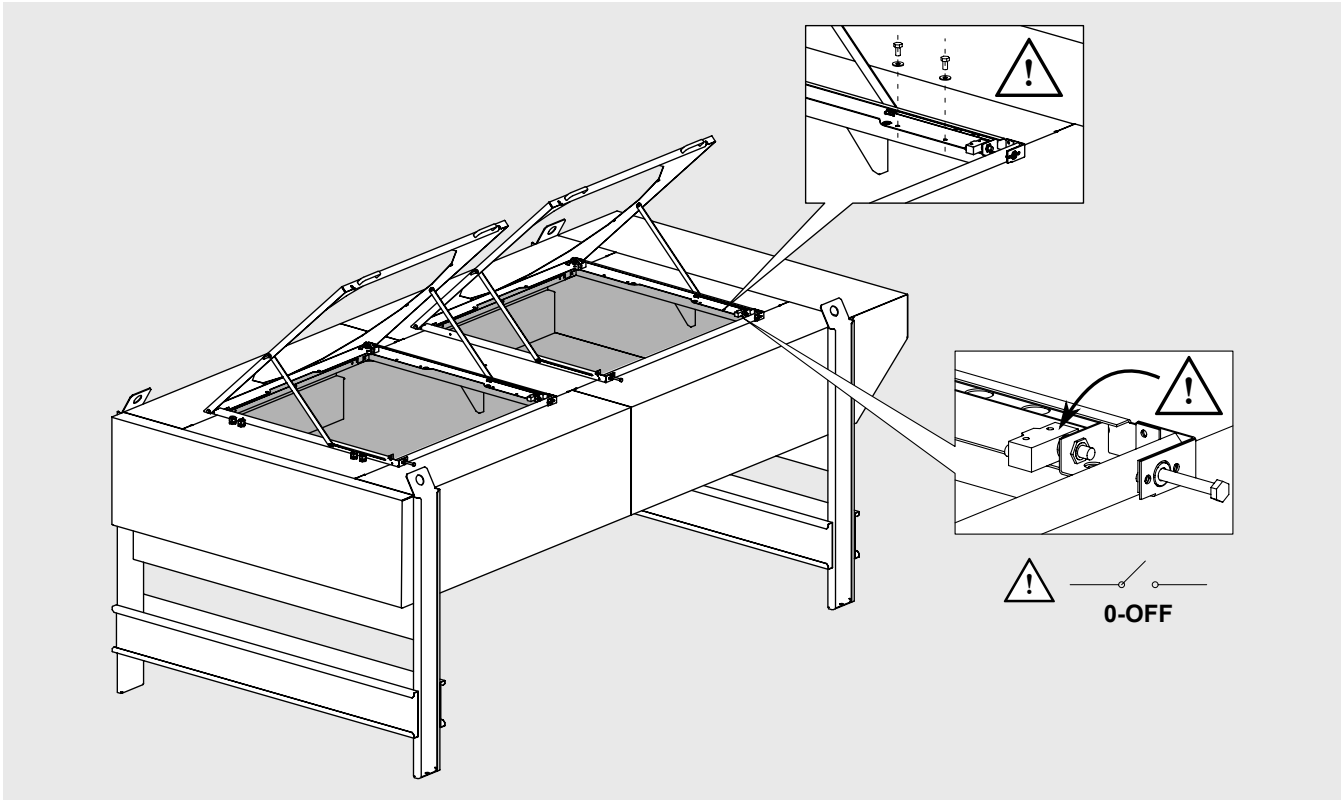

Figure 9
- 8.11.4 Fix the lower side of the frame in position on the model using the screws and washers that come in bundle with the product. Use all the available fixing points. See "Figure 9".